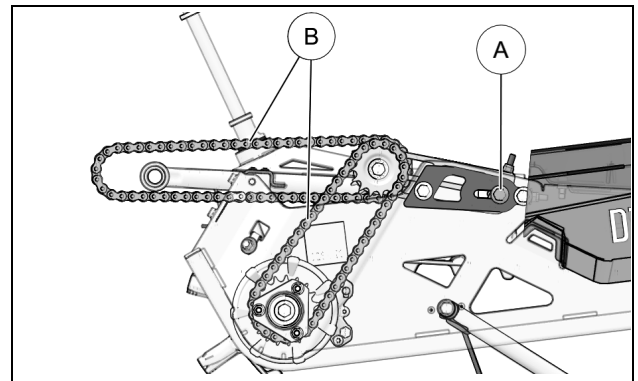

Figure 28
If a chain is adjusted to its highest setting (A) and the required amount of play (3-6 mm [1/8-1/4 in.]) cannot be obtained at the mid point (B) between the pignons, the chain should be replaced. See Figure 28.